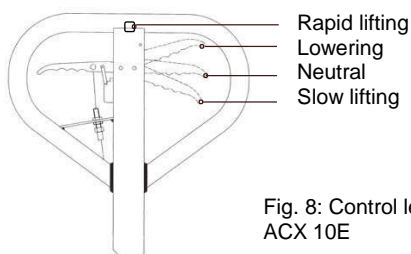

Fig. 8: Control lever
Adjust the control lever if necessary as follows (Fig. 8):
- If the control handle is in the "Lower" position and the forks do not move down, turn the adjusting nut on the setscrew clockwise until you achieve the corresponding effect for the handle position. Now check the "Neutral" position in accordance with Fig. 8 and ensure the position of the adjusting nut is correct.